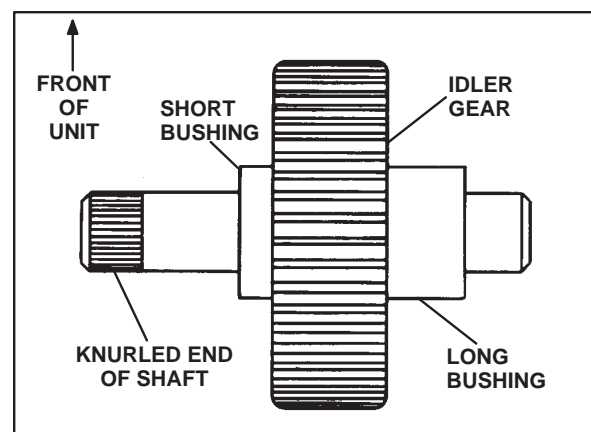

FIGURE 5
- NOTE:** DO NOT drive idler shaft out the right side of unit or damage to gear case may occur. When reassembling idler shaft, make sure bushings on shaft are installed correctly. (Figure 5)